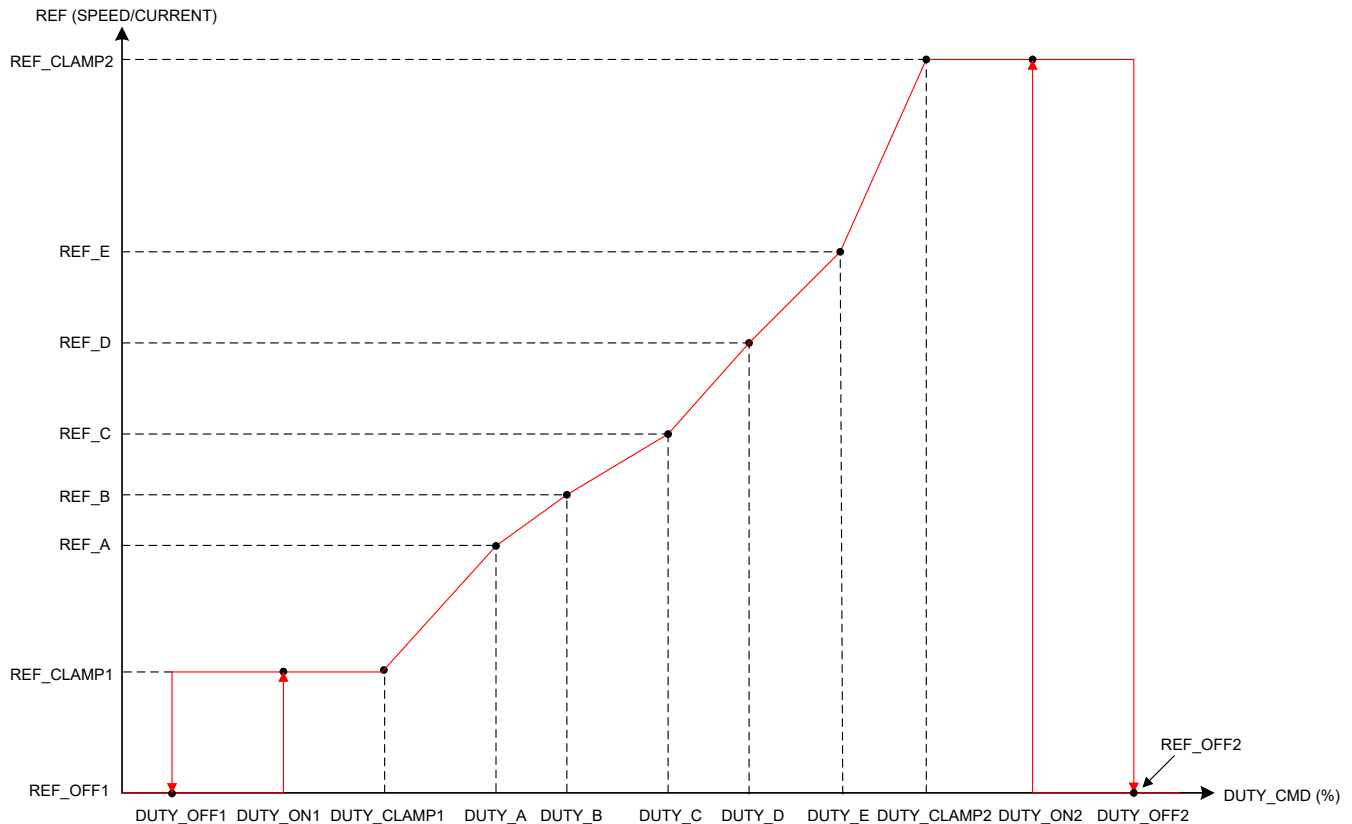
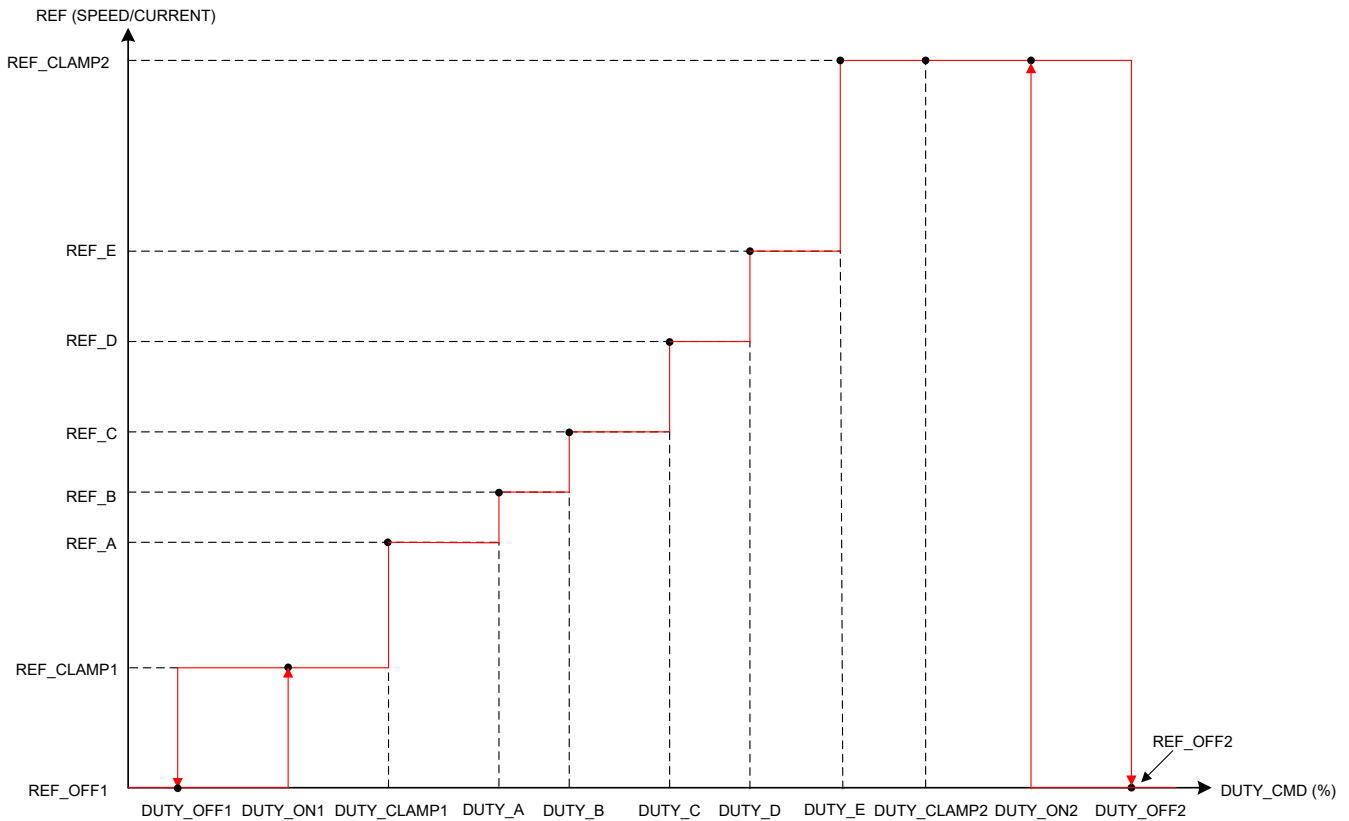
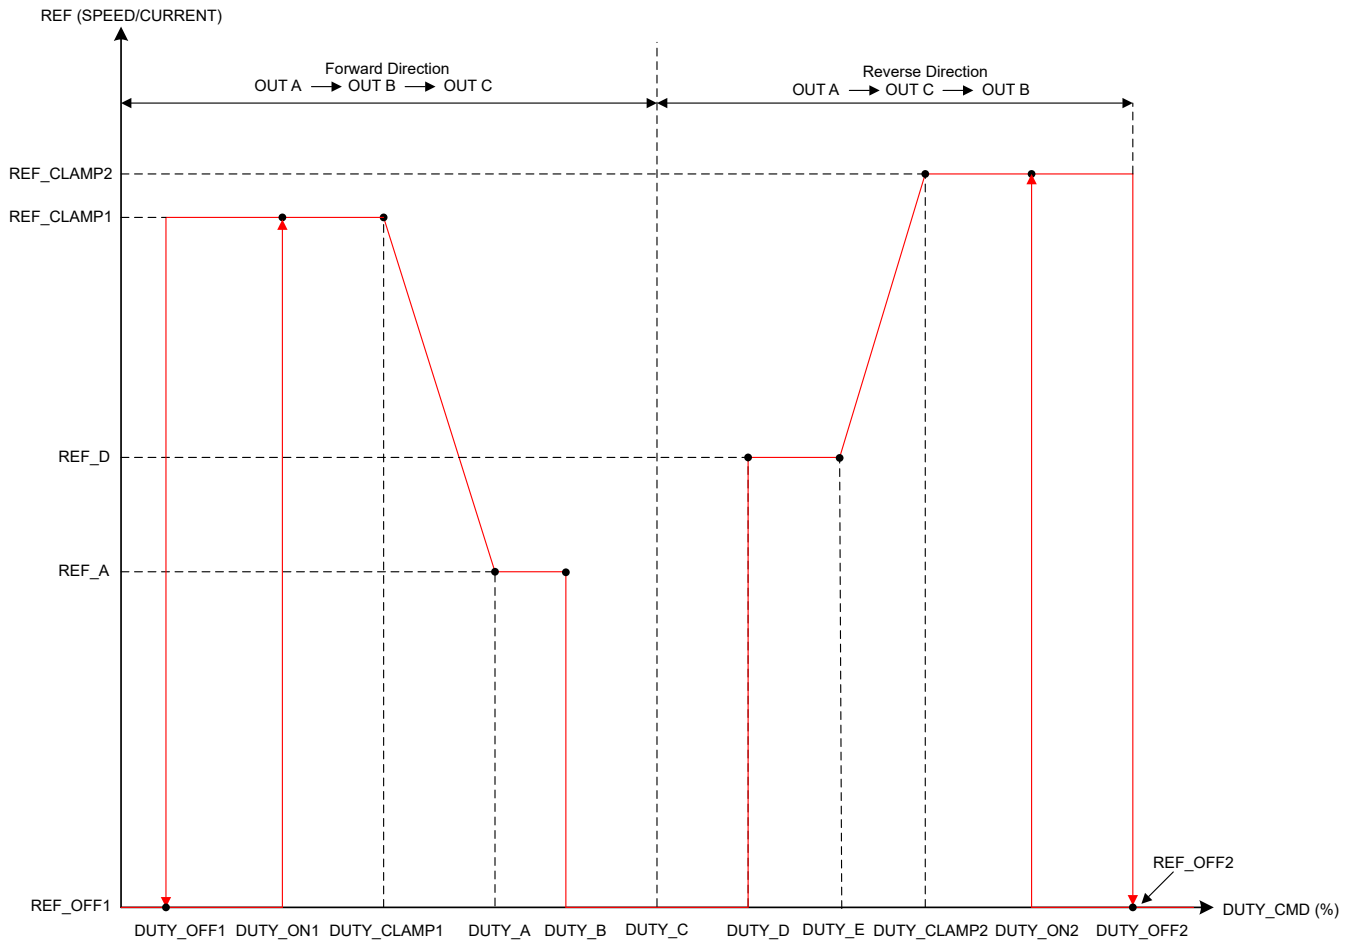

Figure 6-19. Linear Reference Profiles
Figure 6-20. Staircase Reference Profiles
Figure 6-21. Forward-Reverse Reference Profiles
2. The reference value in Figure 6-19, Figure 6-20 and Figure 6-21 is decided by control mode (SPEED_LOOP_DIS) as follows,
- Current control mode (SPEED_LOOP_DIS = 1b): CURRENT_REF (A) = (REF_x/255) x ILIMIT (A)
- DUTY_OFF1 and DUTY_ON1 configure a hysteresis between reference levels, REF_CLAMP1 and REF_OFF1 as shown in Figure 6-19.
- DUTY_A configures the duty command for reference REF_A. The reference changes from REF_CLAMP1 to REF_A linearly between DUTY_CLAMP1 and DUTY_A. DUTY_A to DUTY_E has to be in the same order as shown in Figure 6-19.
- DUTY_OFF2 and DUTY_ON2 configure a hysteresis between reference levels REF_CLAMP2 and REF_OFF2 as shown in Figure 6-19.
- DUTY_OFF1 and DUTY_ON1 configure a hysteresis between reference levels REF_CLAMP1 and REF_OFF1 as shown in Figure 6-20.
- DUTY_A configures the duty command for reference REF_A. There is a step change in reference from REF_CLAMP1 to REF_A at DUTY_CLAMP1. DUTY_A to DUTY_E has to be in the same order as shown in Figure 6-20.
- DUTY_OFF2 and DUTY_ON2 configure a hysteresis between reference levels REF_CLAMP2 and REF_OFF2 as shown in Figure 6-20.
- DUTY_OFF1 and DUTY_ON1 configures a hysteresis between reference levels REF_CLAMP1 and REF_OFF1 as shown in Figure 6-21.
- DUTY_A configures the duty command for reference REF_A. The reference changes linearly between DUTY_CLAMP1 and DUTY_A. DUTY_A to DUTY_E has to be in the same order as shown in Figure 6-21.
- DUTY_OFF2 and DUTY_ON2 configure a hysteresis between reference levels REF_CLAMP2 and REF_OFF2 as shown in Figure 6-21.